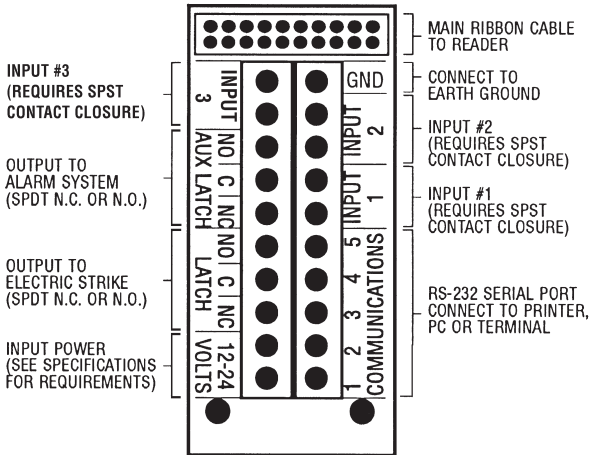

FIGURE 2
For ease of installation and servicing, the **ENTRACOMP® 28SA-Plus** is provided with a terminal board which is connected to the main unit via a ribbon cable and connector. The screw terminals on the circuit board will accept wire gauges #16 through #24, solid or stranded. Strip approximately 5/16" (8mm) of insulation, insert into the appropriate hole, and tighten with a small screwdriver. Tinning is strongly recommended for stranded wires (see Figure 2 for proper terminations). Arrange a cable drip loop on all exterior installations.
The double-pole, double-throw relay is activated whenever a valid entry is generated. The latch output from the relay is on the terminal board (see Figure 2) and is used to operate the door operating device. The aux latch output may also be used to operate a device or to bypass an alarm sensor. Example below is for an electric strike; a magnetic lock would be connected to the **C** and **NC** terminals.
The **ENTRACOMP® 28SA-Plus** is designed to communicate with a printer, terminal, personal computer or a modem, using an RS-232 interface. **The wiring for a printer cable is different from the wiring for a PC or Terminal.** (see Figures 2 through 9 for communications wiring instructions).
**TERMINAL BOARD CONNECTION.** For permanent (hard-wired) connection, communications wiring may be connected to the unit via the terminal board (see Figure 2 for wiring).